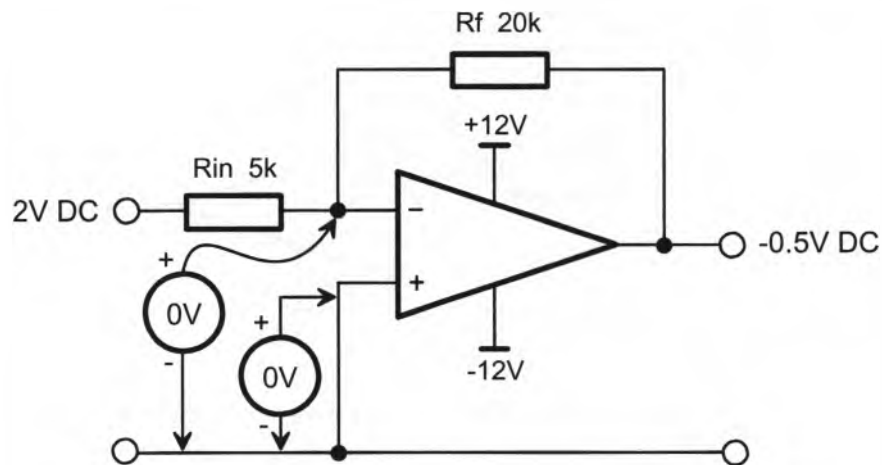

Figure 4
17. Figure 4 below shows a faulty inverting amplifier with input and output voltages shown together with the voltages on the op amp's non-inverting and inverting pins. State what component in the circuit is faulty and what's wrong with it.